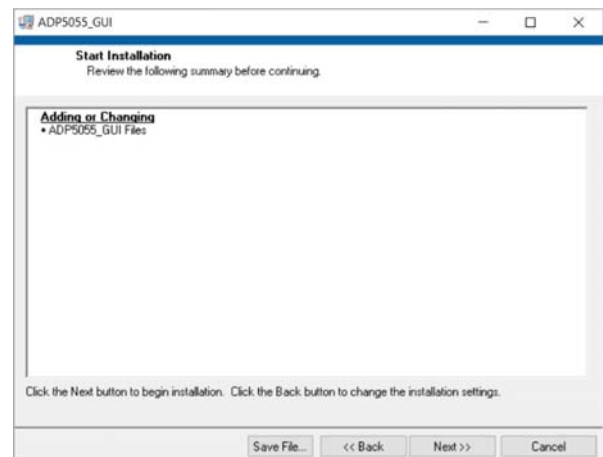

Figure 4. Start Installation Window
4. Click **Next >>** to install the `ADP5055_GUI` software program (see Figure 4).